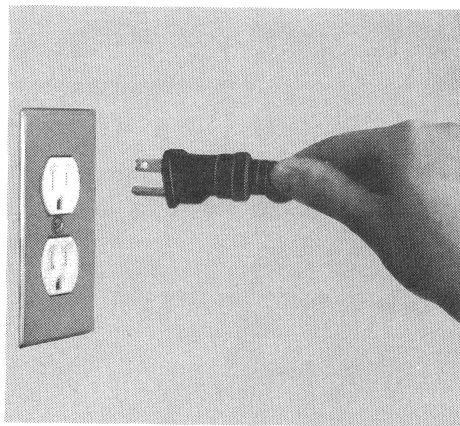

Figure 3. Line Cord And Outlet.
4. Connect line cord to 115VAC single phase 15A source (Figure 3).